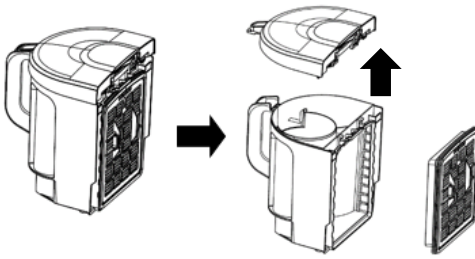
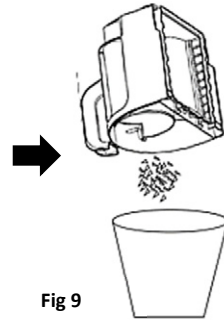

Fig 8
Fig 9
3. As in **Fig.8**, put the dust canister onto the rubbish bin: Push the release button to open the the dust chamber and drop dust into the bin (**Fig.9**).